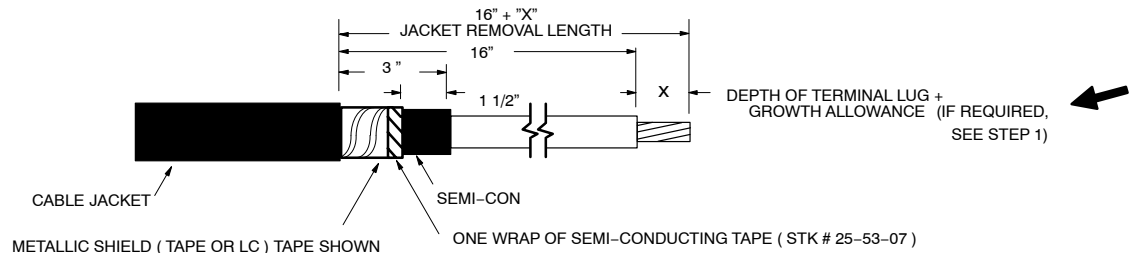

FIGURE 1A
1. Train cable into position and cut to required length. Strip the cable to the dimensions shown in Figure 1A. Check the lug being used to determine insert depth "X". Note A: Special shears (Stk. #85-32-240) should be used to cut the LC shield. Note B: To prevent a taped shield from unrolling, hold down the edges with a single wrap of semi-conducting tape (Stk. #25-53-076). Note C: Provide an additional 1/4" of exposed conductor on 1/0-350 kcmil cables and an additional 3/4" of exposed conductor on 750 kcmil cables. This will accommodate growth during crimping of aluminum lugs. If a shearhead bolt lug is used, additional exposed conductor is not required.